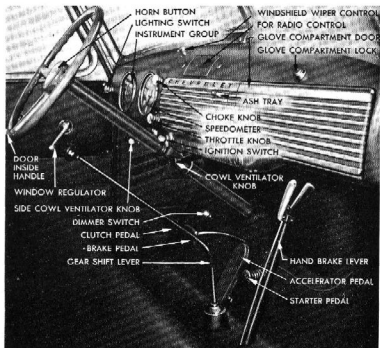
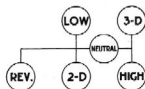
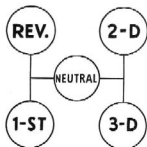

Fig. 2—Controls and Instruments—1-1½ and 2 Ton
Fig. 11—Four Speed Transmission Shifting Diagram
Fig. 12—Three-Speed Transmission Shifting Diagram
Hand Brake Lever—1-1½ and 2 Ton. Extends up through floor to the right of the gear shift lever with the grip just below the instrument panel (fig. 2). Pulling this lever back applies the rear wheel brakes by means of mechanical linkage entirely independent of the hydraulic system. To release brakes, grip
Gearshift Lever (4-speed Synchro-mesh Transmission). Extends to the left and back from transmission cover dome at center of floor (fig. 2). This lever is used to shift the transmission gears to the desired position. Figure 11 shows the lever knob positions when the transmission is in neutral, reverse and the four forward speeds. To shift the transmission into any of the forward speeds, disengage the clutch, move the lever across neutral to right or left as desired, and then forward or back into gear.
Figure 12 shows the gearshift pattern in neutral, reverse and three forward speeds. To shift into any gear position, disengage the clutch, move the shift lever up or down from neutral position and then forward or back into the desired gear.
2. Move gearshift lever into low gear position. (If 4-speed transmission see Figure 11, or if 3-speed transmission see Figure 12.)
1. Depress clutch pedal and release accelerator at the same time. Move the shift lever into neutral and then to the next higher gear. See shifting diagrams, Figures 11 and 12.
2. Move shift lever across neutral to left, against the spring tension as far as it will go. Move lever back into reverse (fig. 11).
2. Raise shift lever up across neutral and forward into reverse position. (fig. 12).